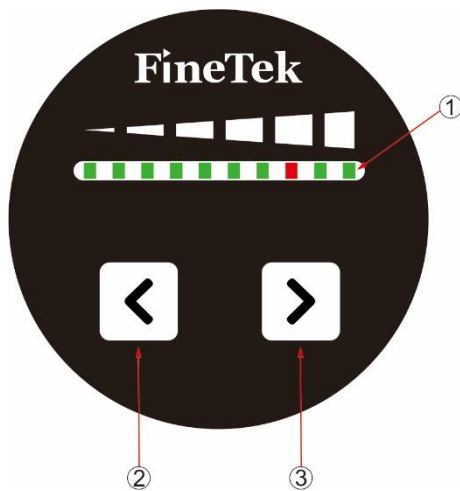
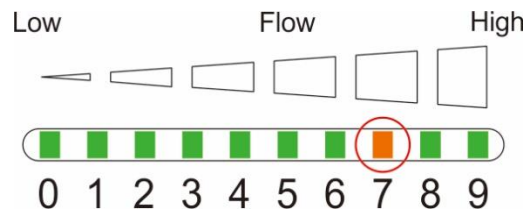
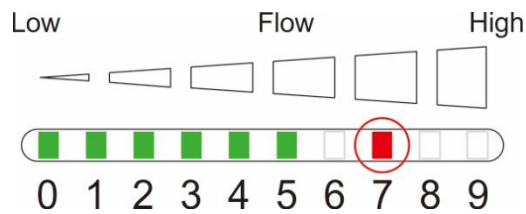
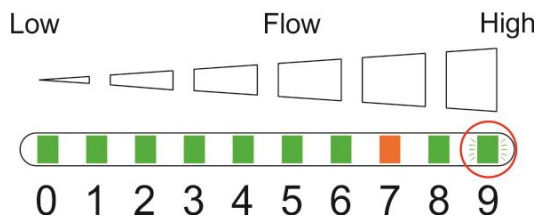

Figure 1
Figure 2
Figure 3
Figure 4
①	<ol style="list-style-type: none"> Ten bicolor LEDs. Green LED On: This LED indicates a fast or slow flow and displays the current flow rate (Figure 1). Orange LED On: (Figure 2) <ul style="list-style-type: none"> The flow rate is at the alarm setting point. When the switch output functions of the relay (NC/NO) and NPN/PNP (Enable/Disable) switch alternately. Red LED On: The flow rate is lower than the alarm setting; output action (Figure 3) The green LED 9 flashes to indicate that the flow rate exceeds the current maximum flow rate setting (Figure 4). The green LED 0 flashes to indicate that the flow rate is lower than the current minimum flow rate setting (Figure 5).
②	Left arrow key (for setting)
③	Right arrow key (for setting)